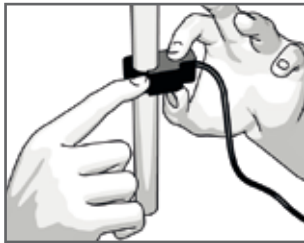

Fig. 5
3. Push the clasp to close around the feed cable securely (Fig. 5)
Remove a standard 1cm knock out from the meter box. Feed the mini CT sensor lead from inside the box out through the raw knock out hole. Open and place the mini CT sensor around the live feed cable 4 (Fig.5).